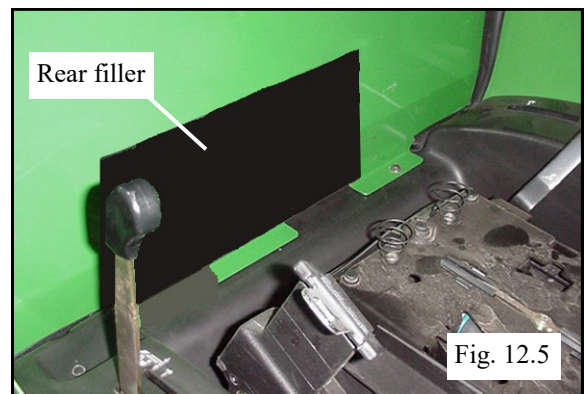

Fig. 12.5
- 12.5 Install the rear filler as shown in fig. 12.5 in the same manner as the front fillers. If your tractor is equipped with a backhoe, cut the filler around the hydraulic lines using snips.